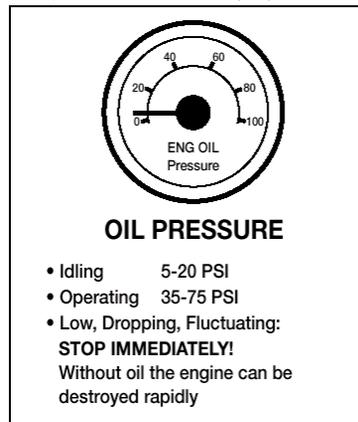

Figure 2.5
1. Oil pressure. Should come up to normal within seconds after engine is started. See Figure 2.5